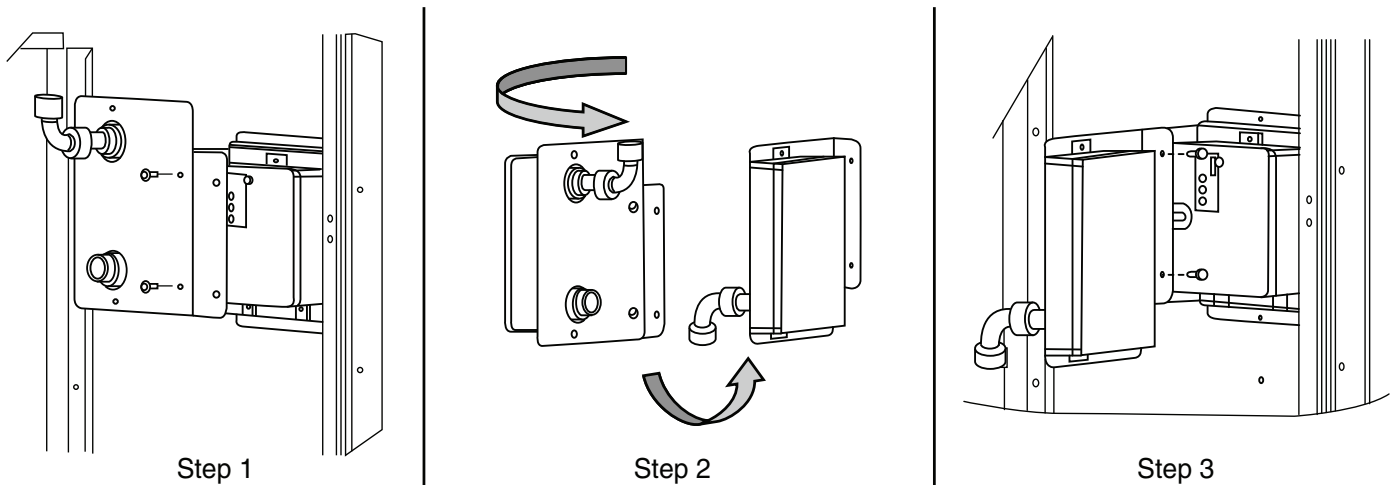

Fig. 54 — Completing Installation of Return Air Smoke Sensor
1. Unscrew the 2 screws holding the return air smoke detector assembly. See Fig. 54, Step 1. Save the screws.
2. Turn the assembly 90 degrees and then rotate end to end. Make sure that the elbow fitting is pointing down. See Fig. 54, Step 2.
3. Screw the sensor and detector plate into its operating position using screws from Step 1. See Fig. 54, Step 3.